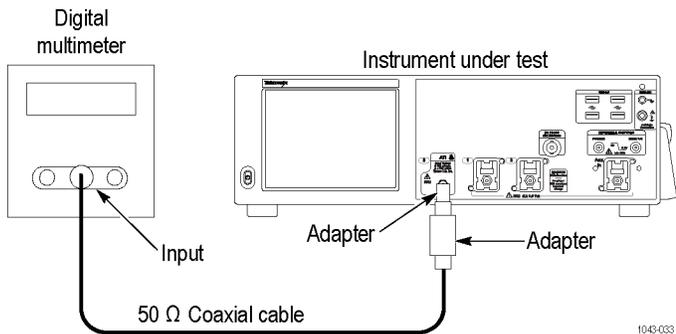

Figure 22: Input resistance test hookup
- d. *Hook up the test-signal source:* Connect, through a 50  $\Omega$  precision coaxial cable, the input of the multimeter to **Ch 2** through adapters. (See Figure 22 on page 154.)